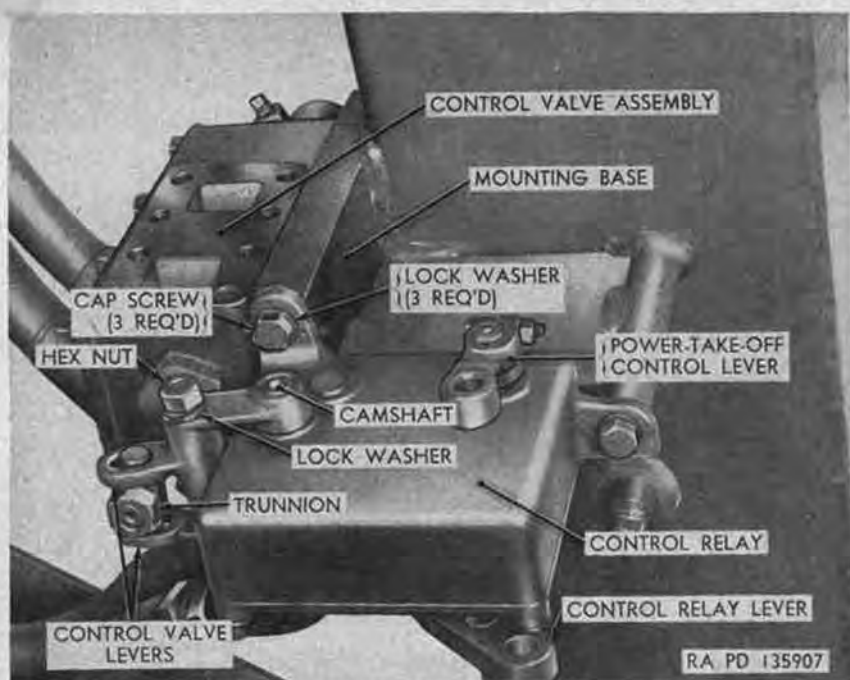

Figure 323. Bottom view of right side of control valve assembly with pump and adapter removed M51.
- (5) *Control valve assembly.* The control valve assembly (fig. 323) consists of a spool-type hydraulic valve with a pair of hydraulic manifolds installed in the outlet ports. The control valve is bolted to a mounting base welded to the rear of the hydraulic reservoir.